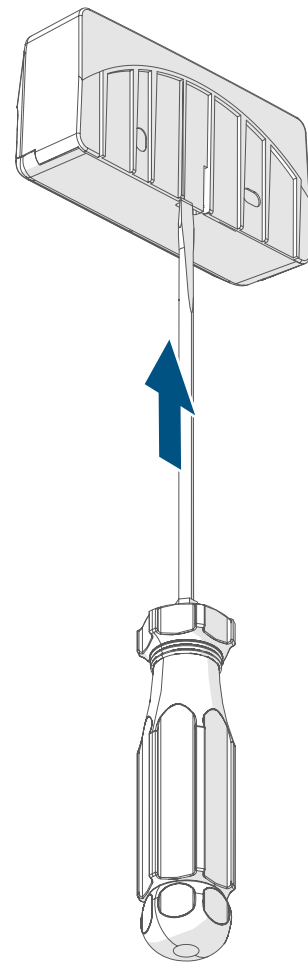

Figure 2
- Press the lug on the back side of the wall bracket (A) slightly to the rear (using a flat-blade screwdriver, if necessary) to loosen the electronic unit (C) from the wall bracket (→see figure 2).
- Remove the empty battery from the battery compartment (D).